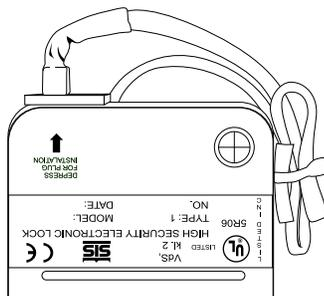

Figure 15
3. Secure any cables with wire tie, making sure to keep out of the way of all moving parts (Figure 15).